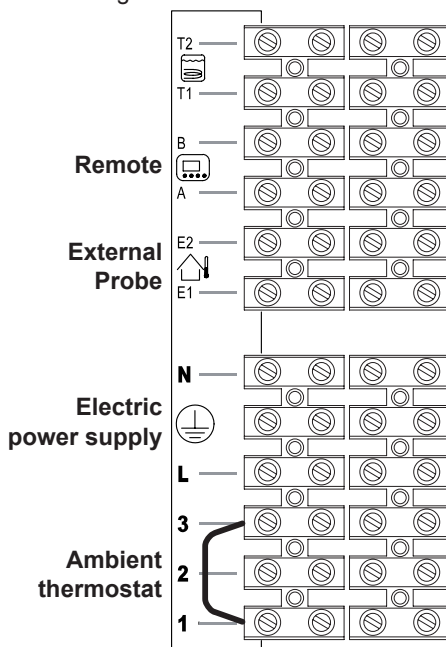
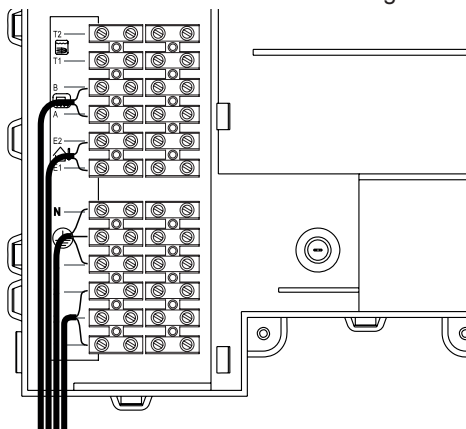
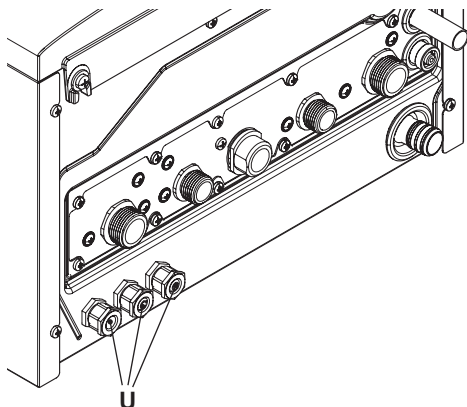

Fig. 6.16
Fig. 6.17
Fig. 6.18
- Connect the electric power supply cable coming from the fused spur isolation switch to the power supply terminal block of the boiler Fig. 6.16 keeping the same connections for the live (brown wire) and the neutral (blue wire). External 3A fuse or fused plug with same current rating is recommended.
The route of the boiler and ambient thermostat's electric power supply cable or wires must follow the route indicated in Fig. 6.17.
Allow the cables to exit the boiler by using the relevant cable clamps "U" (Fig. 6.18).
Use the clamps indicated in Fig. 6.16 to connect the ambient thermostat.
Use the ambient thermostat's clamps indicated in Fig. 6.16 and Fig. 6.17 to connect the zone valve. Insert the electric cables of the zone valve's micro switch contacts in clamps "1 and 3" of the ambient thermostat's terminal block as in Fig. 6.17.
The route of the boiler and ambient thermostat's electric power supply cable or wires must follow the route indicated in Fig. 6.17. Allow the cables to exit the boiler by using the relevant cable clamps "U" (Fig. 6.18).
The route of the external probe's connection wires must follow the route indicated in Fig. 6.17.
The route of the remote control cable must follow the route indicated in Fig. 6.17.